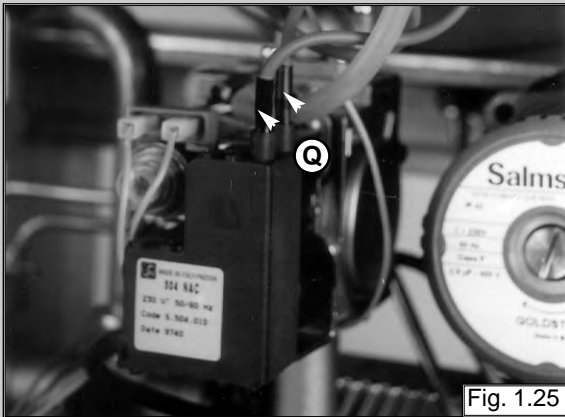

Fig. 1.25
1. Disconnect ignition leads “Q” by pulling upwards (see fig. 1.25);